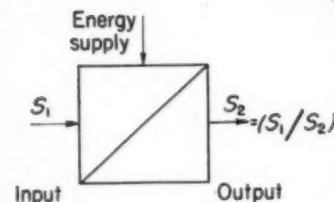

Fig. 1—Any mechanism may be represented by block symbols. In this block, auxiliary power amplifies an input to give the desired output
The extent and permanence of the residual patterns remaining in the disks discussed, Fig. 1, suggested the possibility of substituting a period of loading at room temperature for the usual stress-freezing technique which involves cooling under load. Such a method, if proved satisfactory, would eliminate the need for a large oven with precise temperature control and would require no more time than the conventional technique, because the time under load at room temperature would be no longer than the time required for cooling a model from its critical temperature.
**I**N GENERAL, any mechanism may be considered as a "translator" with a certain input and a corresponding output. This design concept was discussed in a previous series of articles1, 2, 3. Likewise, any physical parameter can be used as an input and any or the same parameter as the output. At that time symbols were established to identify such translators, Fig. 1, and a general reference "translator map" was drawn to be used as a filing or reference system for parameters frequently encountered in the design of mechanisms, Fig. 2.